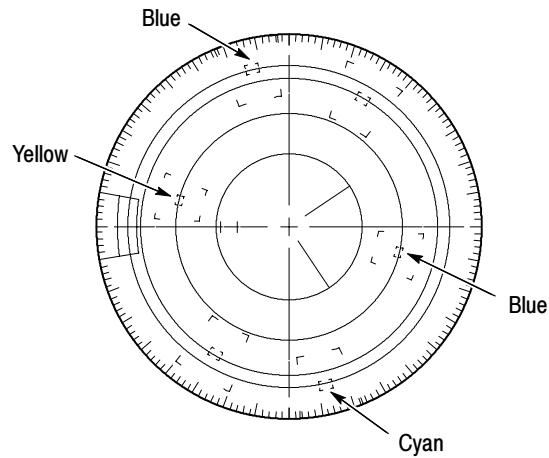

Figure 5-1: NTSC graticule showing the vector gain adjustment
3. Adjust the **▲** and **▼** **buttons** so that the vector dots land in the center of the red and cyan graticule target boxes. See Figure 5-1.
4. Adjust the **◀** and **▶** **buttons** so that the vector dots land in the center of the yellow and blue graticule target boxes. See Figure 5-1.
4. Moving between PHASE and DG VEC GAIN, Adjust the left and right arrow buttons so that the vector dots land in the center of the graticule target boxes. See Figure 5-1.